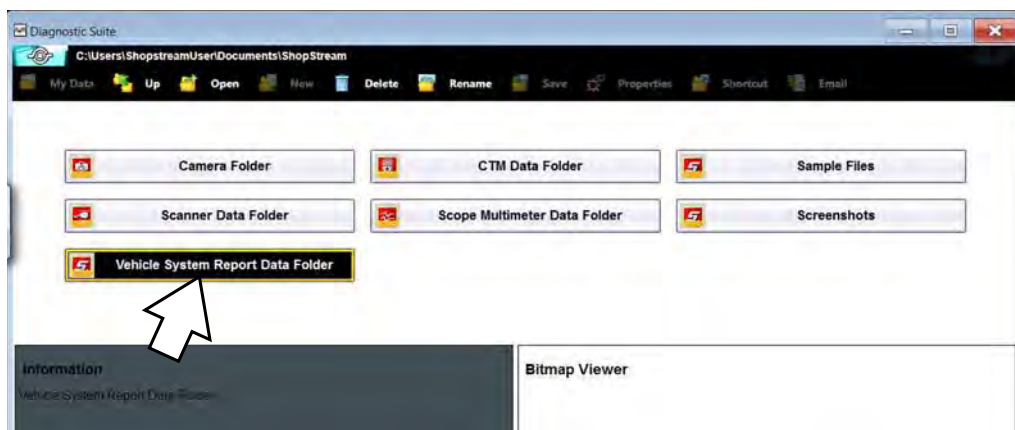

Figure 4-21
2. Select and open the Vehicle System Report Data Folder (Figure 4-21).